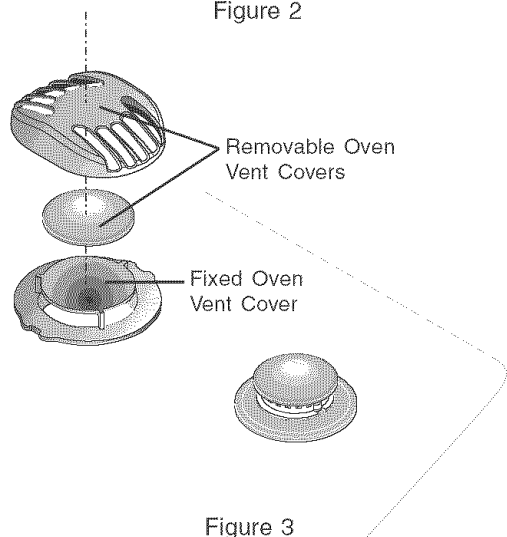

Figure 3
4. Place the 2 (two) removable oven vent covers over the fixed oven vent cover as shown on figure 3.